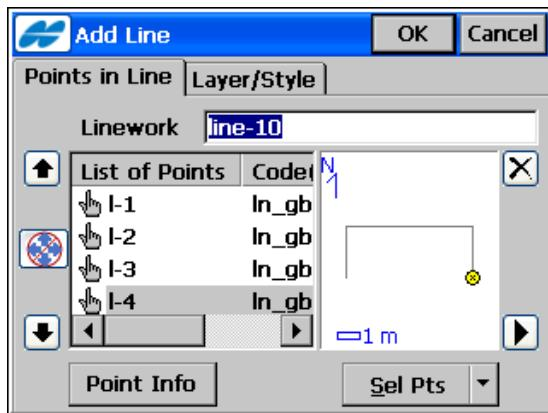

Figure 6-31. Edit Points in Line
- **Edit** – opens the applicable **Edit Line** screen (Figure 6-31 on page 6-27).
On the **Edit Line** screen (Figure 6-31), you can edit the points and the layer of the selected linework.
The *Point in Line* tab displays a list of existing points in the selected Linework on the left side of the screen, and the general view of the linework on the right side (Figure 6-31).